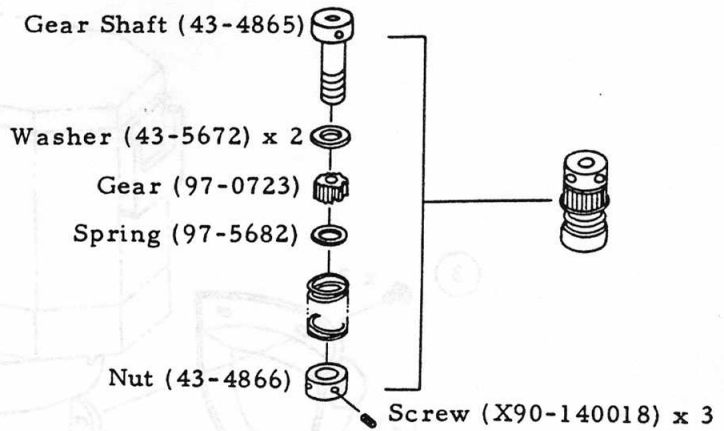

Fig. 1
- 1) Install the parts as shown in Fig. 1.